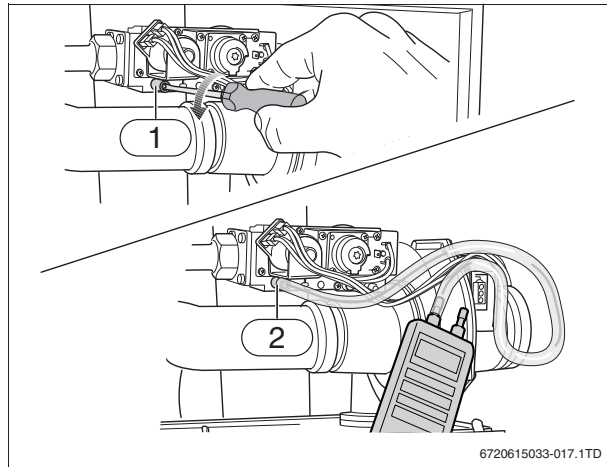

Fig. 16 Measuring the gas supply pressure
- ▶ Close the gas shut-off valve. Loosen the screw plug on the inlet gas pressure testing nipple by 2 turns (→ fig. 16, [1]).
- ▶ Connect the pressure gauge connection hose to the testing nipple (→ fig. 16, [2]).